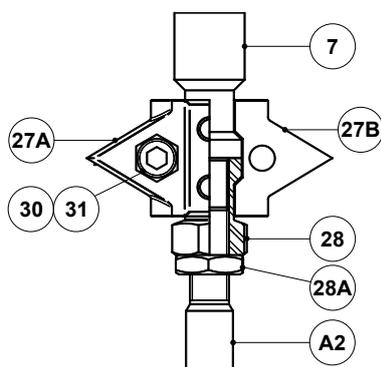
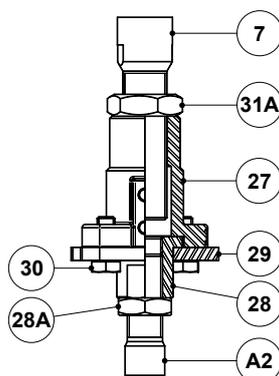

Fig. 2a
Fig. 2b
1. Proceed as follows if the actuator stem (7) design is similar to the one shown in Fig. 2a:
- a. Fasten the lock nut (28A) and adaptor (28) onto the valve stem (A2) until the female thread of the adaptor is no longer visible.
2. Proceed as follows if the actuator stem (7) design is similar to the one shown in Fig. 2b:
- a. Insert the securing flange (29) and fasten the lock nut (28A) and adaptor (28) onto the valve stem (A2) until the female thread of the adaptor is no longer visible.
- b. Fasten the lock nut (31A) and coupling flange (27) onto the actuator stem (7) ensuring the coupling flange (27) is sufficiently threaded.
4. Apply a signal pressure on the actuator which brings the actuator stem (7) to its mid-travel position (e.g. applying 1,5 bar control signal pressure on an actuator with a 1 to 2 bar spring range).
5. Carefully place the actuator yoke over the valve stem and lower it until the yoke flange (1) touches valve bonnet (A1) shoulders.
8. Proceed as follows if the actuator stem (7) design is similar to the one shown in Fig. 2a:
- a. Manually adjust the adaptor (28) until it presses tightly against the actuator stem.
- c. Fit the two coupling halves (27A, 27B) and clamp them together, loosely tightening the two bolts (30) and nuts (31).
9. Proceed as follows if the actuator stem (7) design is similar to the one shown in Fig. 2b:
- a. Manually adjust the adaptor (28) until it presses tightly against the coupling flange (27).
- c. Fix the securing flange (29) against the coupling flange (27), loosely tightening the four bolts (30).
10. Operate the actuator through its full stroke range a couple of times to ensure alignment and tighten the bolts (30) tightly.
4. Carefully place the actuator yoke over the valve stem and lower it until the yoke flange (1) touches valve bonnet (A1) shoulders.
7. Proceed as follows if the actuator stem (7) design is similar to the one shown in Fig. 2a:
- b. Fit the two coupling halves (27A, 27B) and clamp them together, loosely tightening the two bolts (30) and nuts (31).
8. Proceed as follows if the actuator stem (7) design is similar to the one shown in Fig. 2b:
- b. Fix the securing flange (29) against the coupling flange (27), loosely tightening the four bolts (30).
9. Operate the actuator through its full stroke range a couple of times to ensure alignment and tighten the bolts (30) tightly, and align the crimp clamps (A6) with the tip of the coupling (stroke indicator) on the end positions.